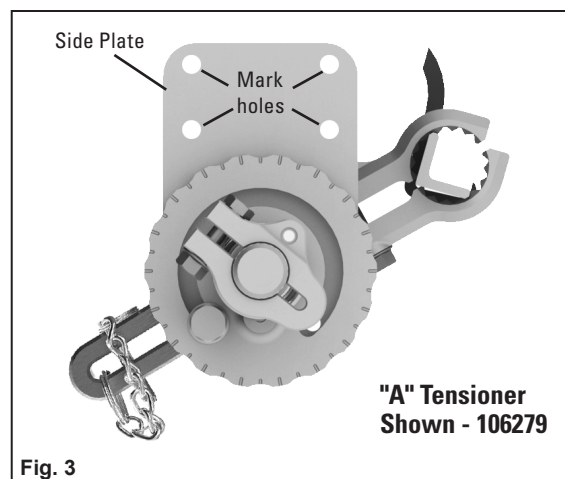
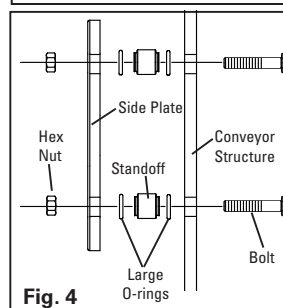

Fig. 3
Fig. 4
7. The bolt holes need to be transfer punched onto the conveyor structure in accordance with the FGS side plate fastener holes, as per Fig. 3, in such a way that at least two fasteners per side can be installed. If mounting cleaner was supplied with stand off bolts, install as per Fig. 4. If no stand offs are required, install side plates as per Fig. 5.
9. Back drill all holes using an 5/16" (8mm) drill. At least two bolt holes are needed per side plate as noted in the bolt hole diagram (Fig. 3).
12. Attach opposite side plate per Fig. 4 or Fig. 5.